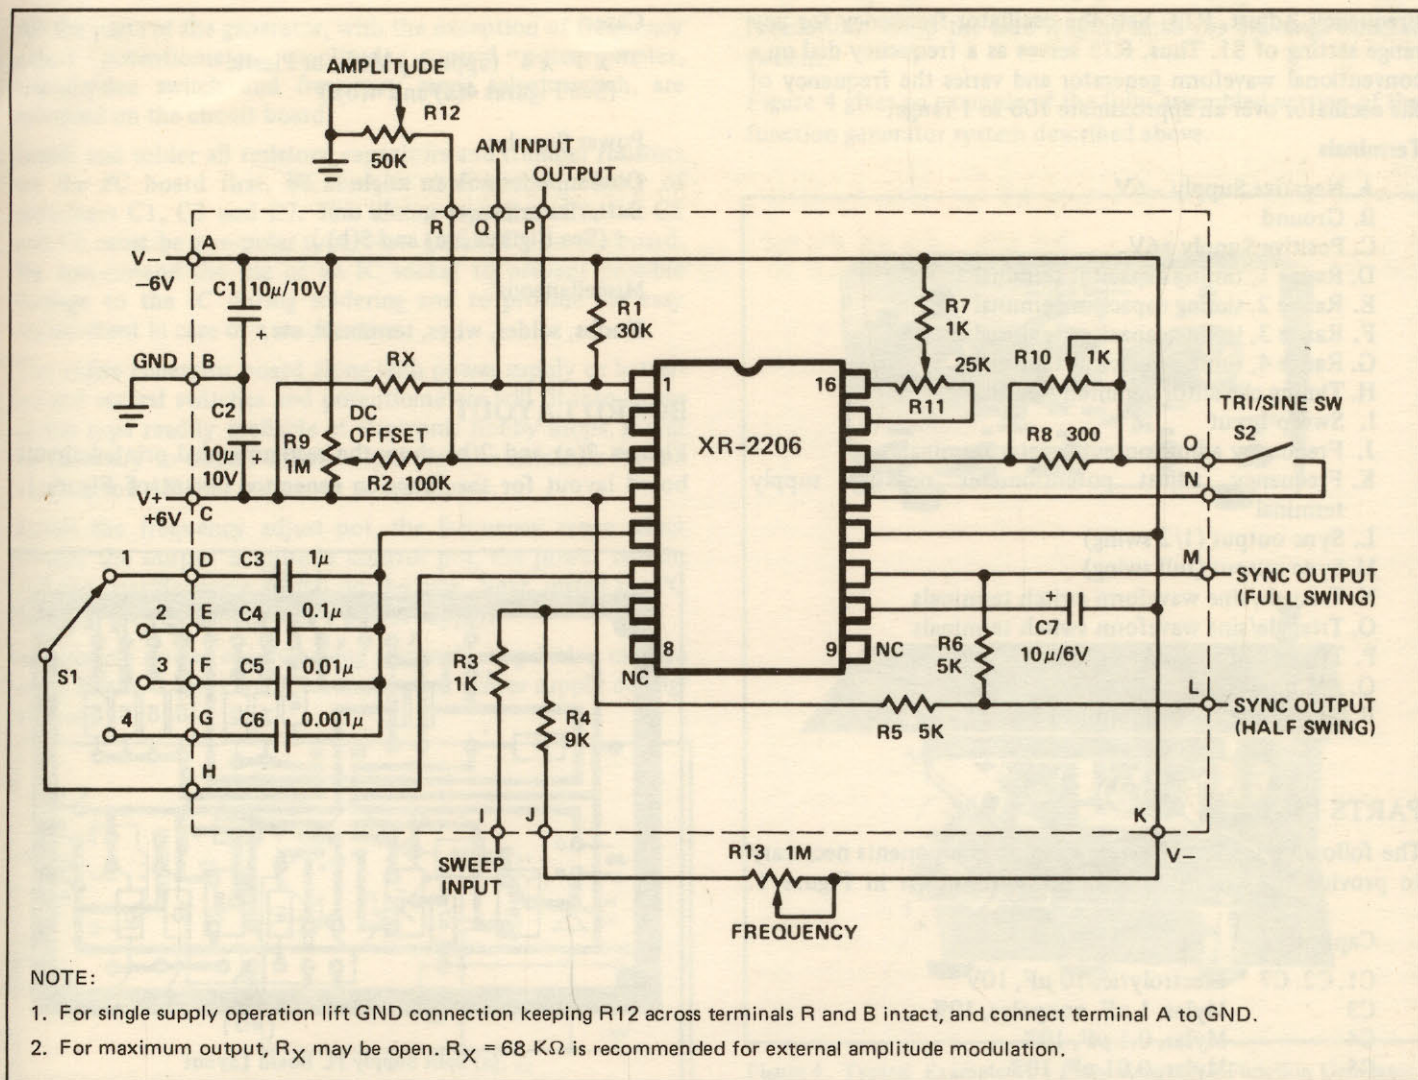

Figure 1. Circuit Connection Diagram for Function Generator. (See Note 1 for single supply operation.)
The performance characteristics listed below are not guaranteed or warranted by Exar. However, they represent the typical performance characteristics measured by Exar's application engineers during the laboratory evaluation of the function generator system shown in Figure 1. The typical performance specifications listed below apply *only* when all of the recommended assembly instructions and adjustment procedures are followed:
(b) **Frequency Setting:** At any range setting, frequency can be varied over a 100:1 tuning range with a potentiometer (see R₁₃ of Figure 1).
The above expression is accurate to within $\pm 5\%$ at any range setting. The timing resistor R is the series combination of resistors R₄ and R₁₃ of Figure 1. The timing capacitor C is any one of the capacitors C₃ through C₆, shown in the figure.
(d) **Sine and Triangle Output:** The sine and triangle output amplitudes are variable from 0V to 6 V_{pp}. The amplitude is set by an external potentiometer, R₁₂ of Figure 1. At any given amplitude setting, the triangle output amplitude is approximately twice as high as the sinewave output. The internal impedance of the output is 600 Ω .
(f) **Sync Output:** The sync output provides a 50% duty cycle pulse output with either full swing or upper half swing of the supply voltage depending on the choice of sync output terminals on the printed circuit board (see Figure 1).
(g) **Frequency Modulation (External Sweep):** Frequency can be modulated or swept by applying an external control voltage to sweep terminal (Terminal I of Figure 1). When not used, this terminal should be left open-circuited. The open circuit voltage at this terminal is approximately 3V above the negative supply voltage and its impedance is approximately 1000 ohms.
(h) **Amplitude Modulation (AM):** The output amplitude varies linearly with modulation voltage applied to AM input (terminal Q of Figure 1). The output amplitude reaches its minimum as the AM control voltage approaches the half of the total power supply voltage. The phase of the output signal reverses as the amplitude goes through its minimum value. The total dynamic range is approximately 55 dB, with AM control voltage range of 4V referenced to the half of the total supply voltage. When not used, AM terminal should be left open circuited.